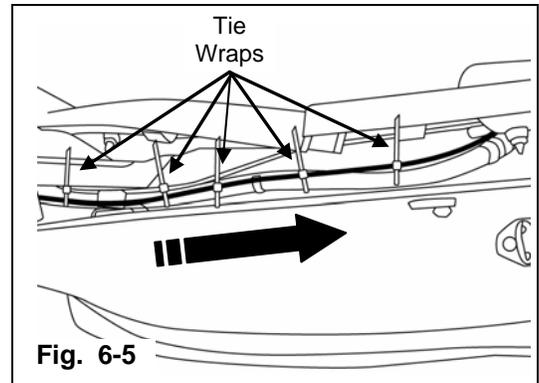

Fig. 6-5
- Route video cable up driver-rear wheel well into rear cargo area, securing to OE harness with five (5) tie wraps. (Fig. 6-5)